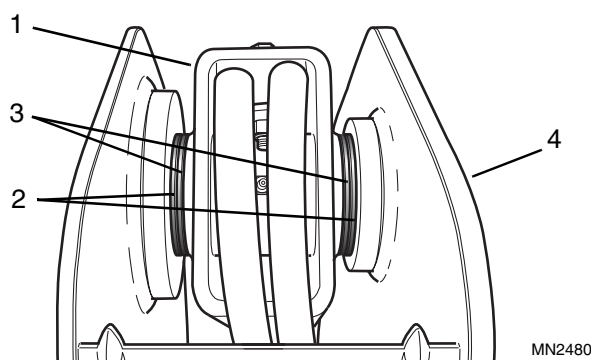

Figure 9-19 Loader Arm Shimming
Note: If the loader arm (Fig. 9-19, 1) has not been replaced, install the pivot pin washers (2) and shims (3) in the following steps in the same quantity and location as they were removed. If the loader arm (1) has been replaced or is worn, it will be necessary to place the shims (3) as required to center the loader arm (1) to the frame, and maintain a maximum clearance of 0.06" (1,5 mm) between each side of the loader arm and the vehicle frame.
3. Install the shims (Fig. 9-19, 3) and washers (2) as required, insert the pins that attach the loader arm on each side to the frame, and secure each pin with a capscrew and new hex elastic locknut.